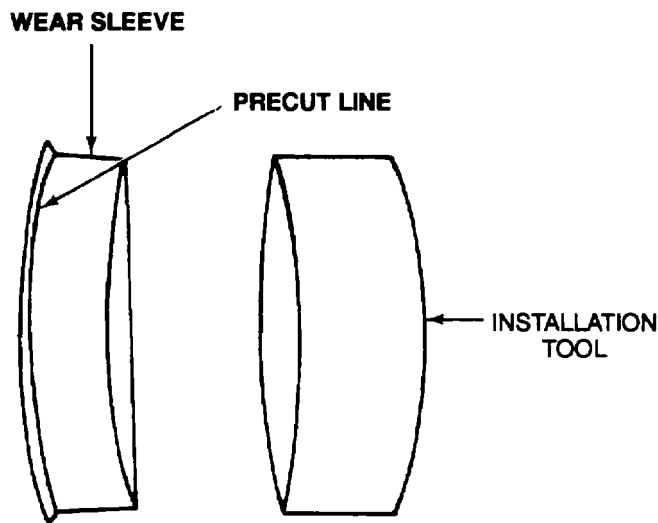

Figure 9-53. Seal Surface Wear Sleeve Kit
- (48) If the front or rear seal surface is unacceptable, install a wear sleeve over the worn area as follows (see Figure 9-53):